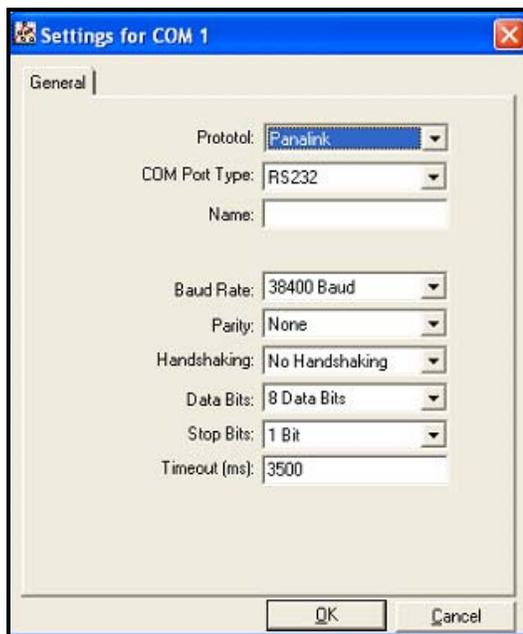

Figure 5: Settings for COM 1
5. Set up the communications port as shown in Figure 5 below. Be sure the baud rate is correct.